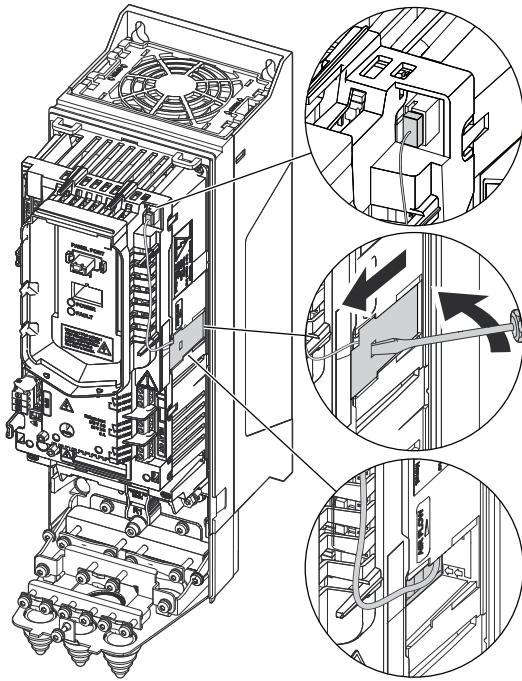

Fig. 67 — Remove Auxiliary Fan
4. Unplug fan power supply wires from the drive (see Fig. 67).
5. Remove the fingerguard: Insert a screwdriver into the hole of the fingerguard (see Fig. 67).
6. Unplug the fan power supply wires from the drive (see Fig. 67).